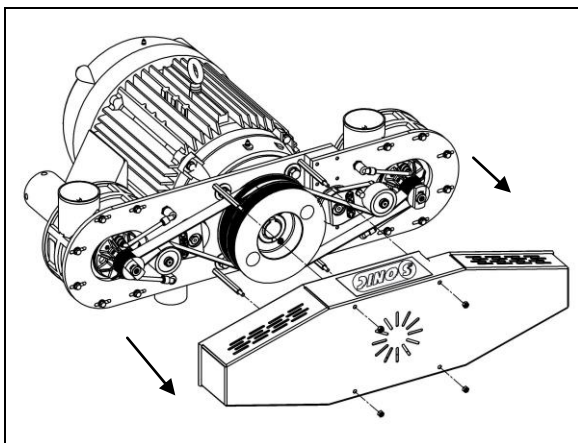

Figure 27 - Remove Belt Guard
1. Remove the belt guard using the 1/2 inch box-end wrench. (See Figure 27)